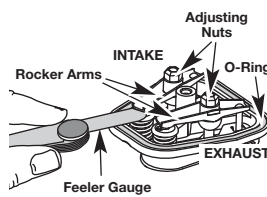

Fig. 30
- Slide the feeler gauge between the rocker arm and the valve return spring. Measure the clearance between the valve stem and rocker arm (Fig. 30 & 31). Measure both the intake and exhaust valves.
The recommended clearance for both intake and exhaust is .003 – .006 in. (.076 – 0.152 mm). Use a standard automotive .005 in. (.127 mm) feeler gauge. The feeler gauge should slide between the rocker arm and valve stem with a slight amount of resistance, without binding. See Figures 30 and 31.